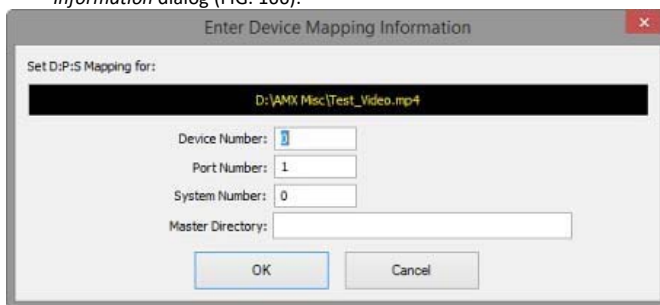

Fig. 166 NetLinX Studio 4 - Enter Device Mapping Information dialog
3. Click **Add** to select the video file you want to use: Select the video file in the *Open* dialog and click **OK** to invoke the *Enter Device Mapping Information* dialog (FIG. 166):